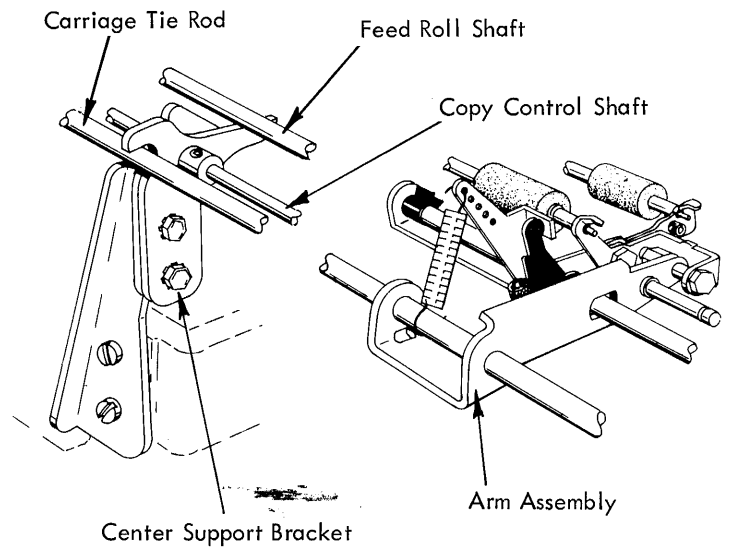

FIGURE 260. Center Support Bracket
- b. Late Paper Feed Mechanism - With the feed roll tension springs disconnected, the center support bracket (Fig. 260) should be positioned so that the forward lug just touches the underside of the feed roll shaft while the rear lug just touches the top of the carriage tie rod. The center support bracket should not bow the copy control shaft.
- b. Late - The right hand front feed roll arm assembly on the 11 inch machine and the left and right hand front feed roll arm assemblies on the 15 inch machine should be adjusted to give end play to the feed roll shafts that will not permit them to contact the sides of the openings in the deflector but will permit them to roll freely (Fig. 260).